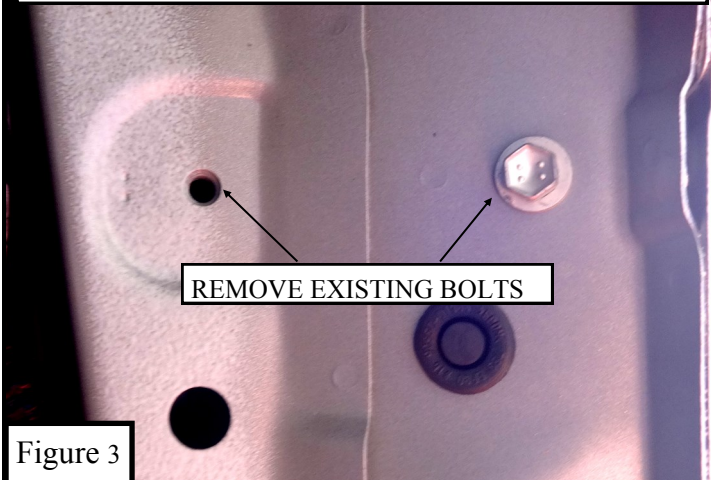

Figure 3
3. Locate four mount existing threaded locations at each side, and remove existing bolts. **Figures 3 & 5.** Note: Bolts will not be reinstalled.
4. Starting at the drivers side install (1x) front mounting bracket (item 3), and attach it to the existing threaded holes, using (2) M8 hex head bolts (item 7), (2x) M8 lock washers (item 9), and (2x) M8 large flat washers (item 8). *Do not fully tighten at this time, Figure 3 & 4.*